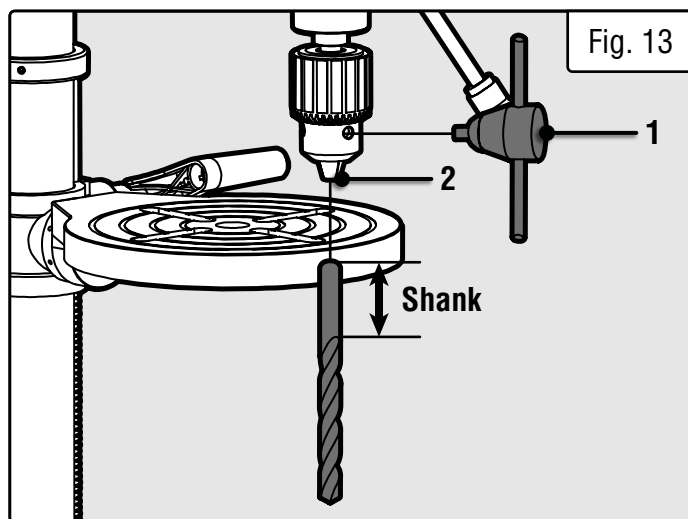

Fig. 13
2. Using the chuck key (Fig. 13 - 1), open the drill chuck jaws (Fig. 13 - 2) wide enough to accept the shank of the drill bit (Fig. 13).